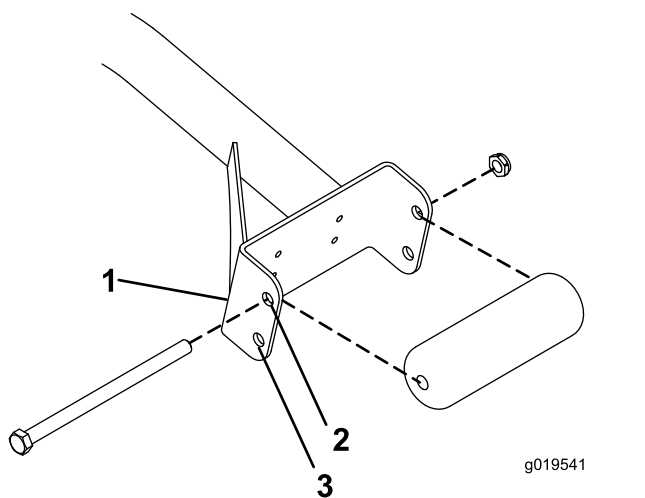

Figure 3
- If using 27 inch cutting units, install the rollers in the upper mounting holes of the support assembly channels (Figure 3).
- If using 32 inch cutting units, install the rollers in the lower mounting holes of support assembly channels (Figure 3).